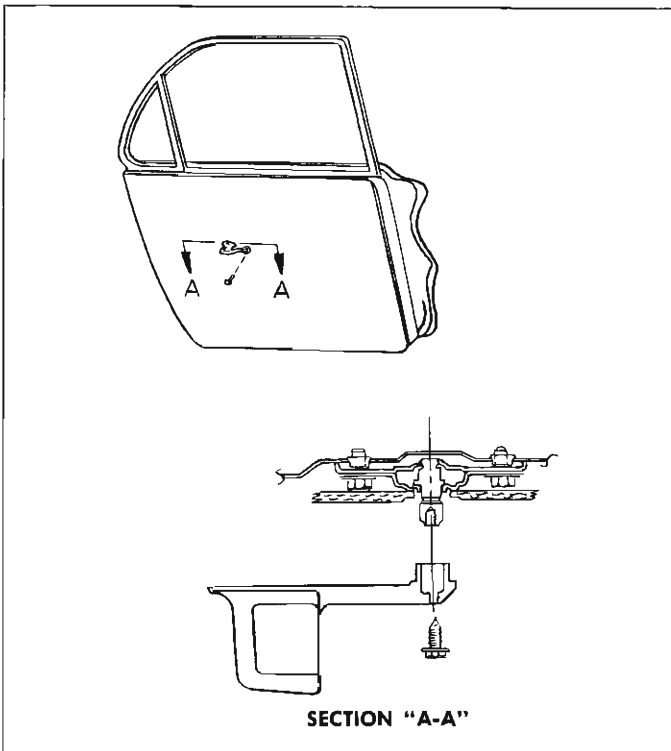

Fig. 4—"Paddle" Type Inside Door Handles
2. Remove handle-to-remote attaching bolt and remove handle from door (see Figure 4).